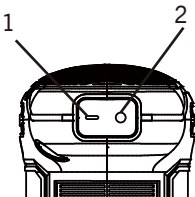

Fig. 3
To turn the switch ON, press the left hand side of the switch (1) (Fig. 3).